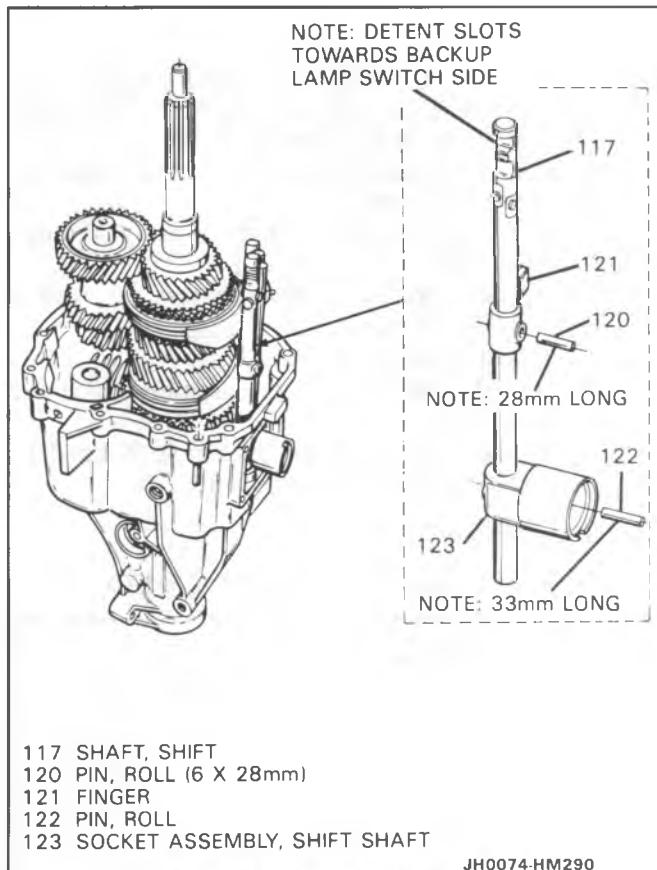

Figure 85 Shift Shaft Install
29. NEW plug (326).
30. Shift shaft (116), finger (121) and shift shaft socket assembly (123) (Figure 85).